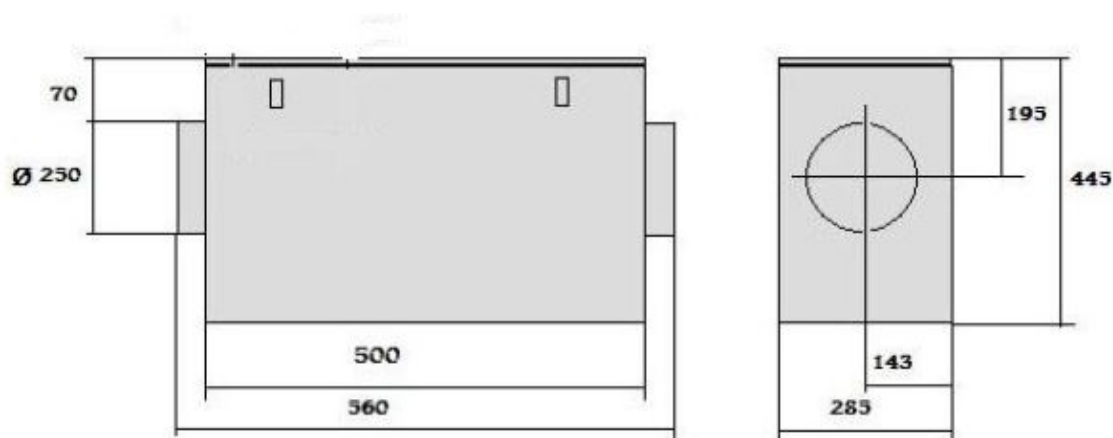

Fig. 3
2. Install the collector cells in the unit so that the arrow on the side of the cell, indicating the direction of airflow, is parallel with the airflow direction arrow on the duct filter housing and the cell contact plate faces its counterpart in the purifier housing at the bottom of the duct filter (Figure 3, item H).